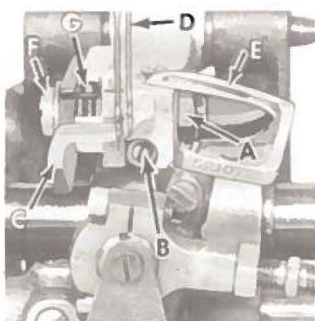

Fig. 12
If feed dog teeth are not parallel with the throat plate, loosen nut (A, Fig. 12) and turn screw (B) clockwise to lower the front teeth, and counterclockwise to raise the front teeth. Retighten nut when feed dog is set properly.
Set the rear needle guard (C, Fig. 12) horizontally so that it does not quite contact the rear of the right needle (D) when at its most forward point of travel. A clearance of .005 inch (.127 mm) is permissible. It should be set as low as possible, yet have its vertical face approach within about 3/64 inch (1.19 mm) of the needle, until the point of the looper (E), moving to the left, is even with the needle. To move needle guard forward or backward, merely loosen screw (F), move needle guard as required, and retighten screw. To raise or lower needle guard, loosen screw (F), and turn screw (G) clockwise to lower needle guard and counterclockwise to raise it. Retighten screw (F) after guard is properly set.